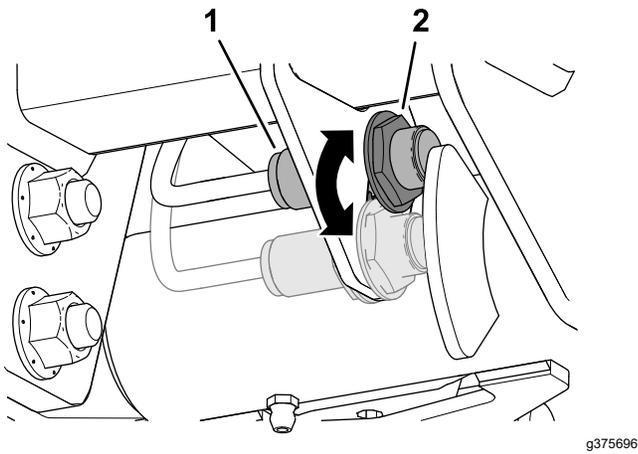

Figure 93
3. Loosen the jam nut that secures lift-arm switch to the switch plate (Figure 93).